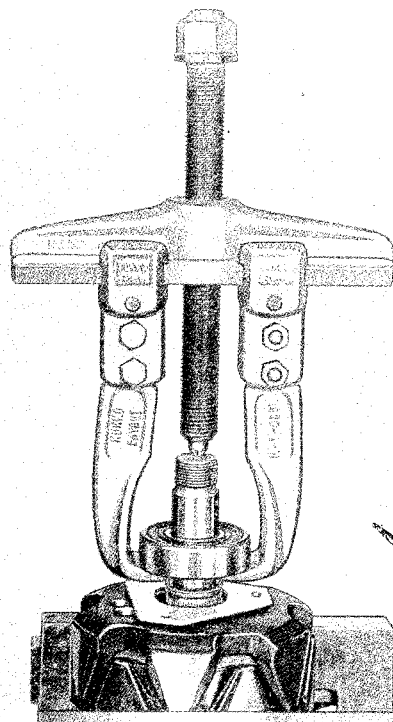

Fig. 3-16. Removing bearing
2. Pull the bearing off with a claw puller, see Fig. 3-16.